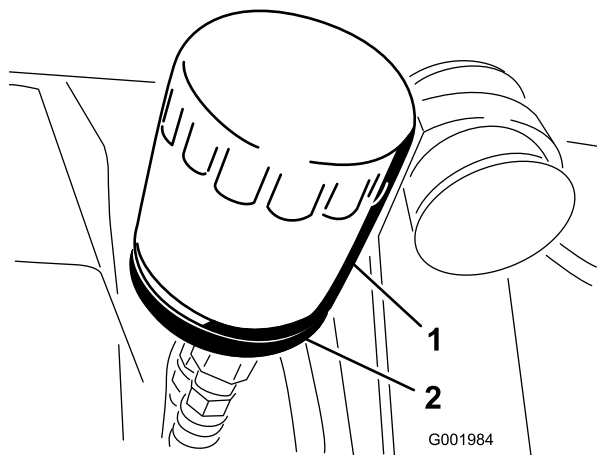

Figure 51
- Remove the oil filter (Figure 51).
- Install the replacement oil filter to the filter adapter. Turn the oil filter clockwise until the rubber gasket contacts the filter adapter, then tighten the filter an additional 1/2 turn (Figure 51).